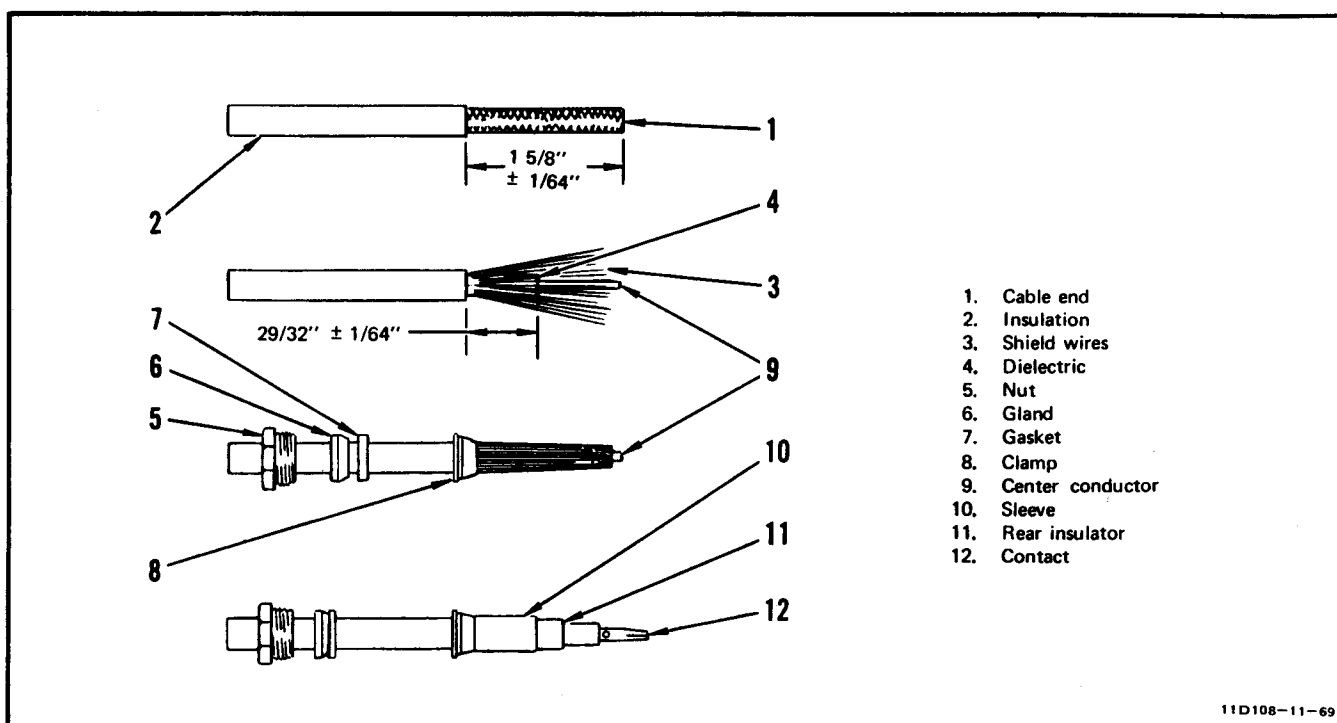

Figure 11-53. HN Series Coaxial Connectors - Captive Contact Repair
**11-133. Contact Repair.** (See figure 11-53.)
a. Cut cable end (1) square and even.
b. Remove  $1 \frac{5}{8}$  ( $\pm 1/64$ ) inches of insulation (2).
c. Comb out shield wires (3).
d. Trim dielectric (4)  $29/32$  ( $+1/64$ , -0) inch from end of insulation.